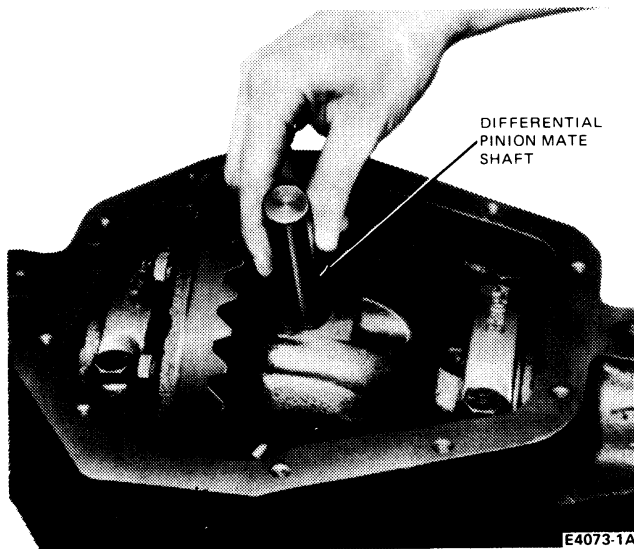

FIG. 4 Removing Differential Pinion Mate Shaft
6. Lift out the differential pinion mate shaft (Fig. 4).